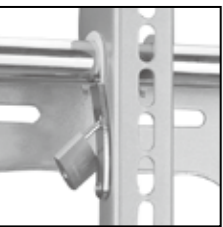

Fig. 5 - A small padlock can be used to help prevent theft of your display.
- Move the safety tab located on each arm into position to avoid having the display accidentally lifted from the mount. A padlock can be inserted into one of the tabs to help prevent theft of your display (see Fig. 5).